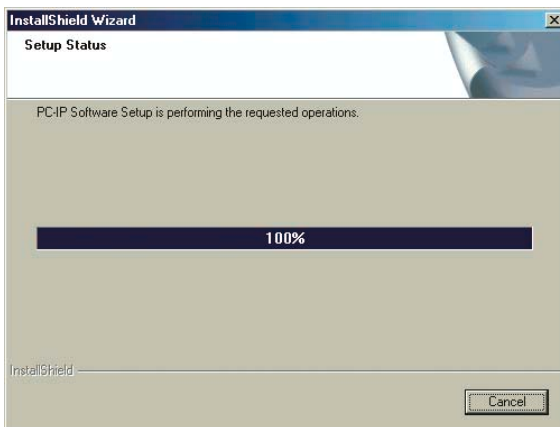

Figure 2-8
- As shown in Figure 2-8, the installation program is now ready to copy the program files to your computer and setup the appropriate drivers and icons. Click Next to complete the installation.